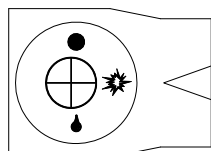

Figure 2 - Gas Supply Control Positions
Situated at the top side of the multifunctional control, the control knob is set correctly when the appropriate symbol is alongside the pointer. (See Figure 2)
- Push control knob in and turn to pilot position. (See Figure 2)
- Turn control knob to MAIN position (Figure 2) and check burner lights.
Return control knob to pilot position (see Figure 2). This will extinguish main burner whilst leaving pilot lit.
Push control knob in and turn to OFF position. (Figure 2)
When work is done, the gas control knob should be returned to the pilot position (See Figure 2) leaving the pilot lit if required.